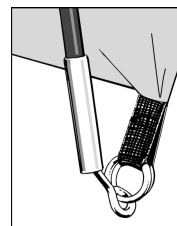

Figure 1
- Locate one end of each pole onto the corresponding metal pin. The metal pin inserts into the hollow metal ferrule on the end of each pole. **(See Figure 1).**